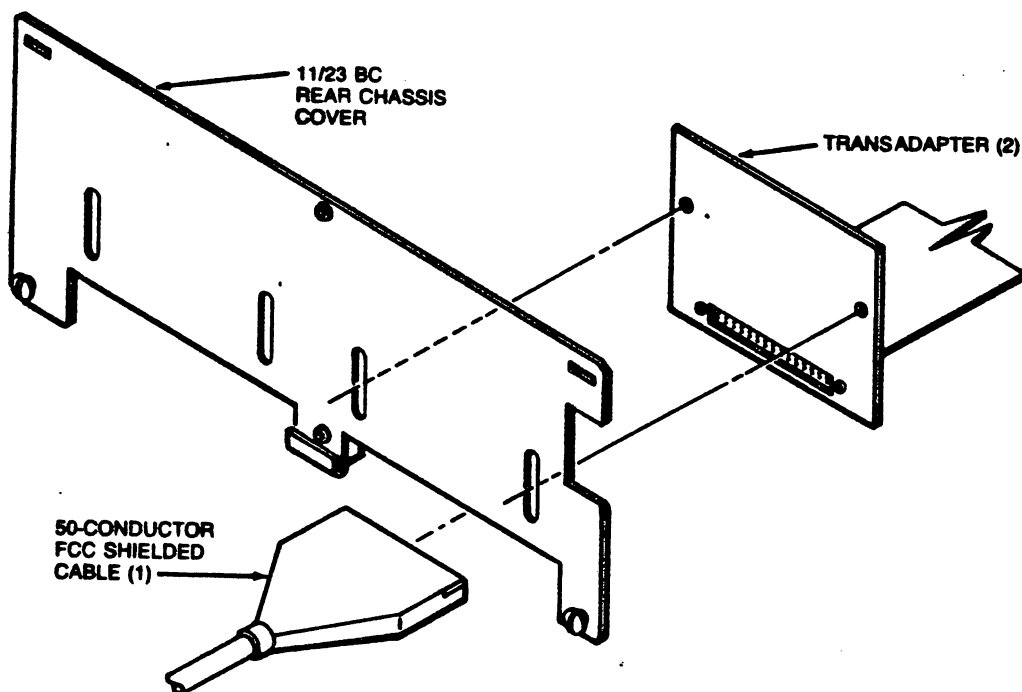

Figure 4-8. Installing the Chassis Mount Cabling Kit
The Chassis Mount Cabling Kit is designed for use with LSI-11/23 BC chassis. To install the Kit, reference Figure 4-8, and use the following procedure:
5. Connect one end of the SCSI round shielded cable to the 50-pin opening in the transadapter plate. See Figure 4-8.